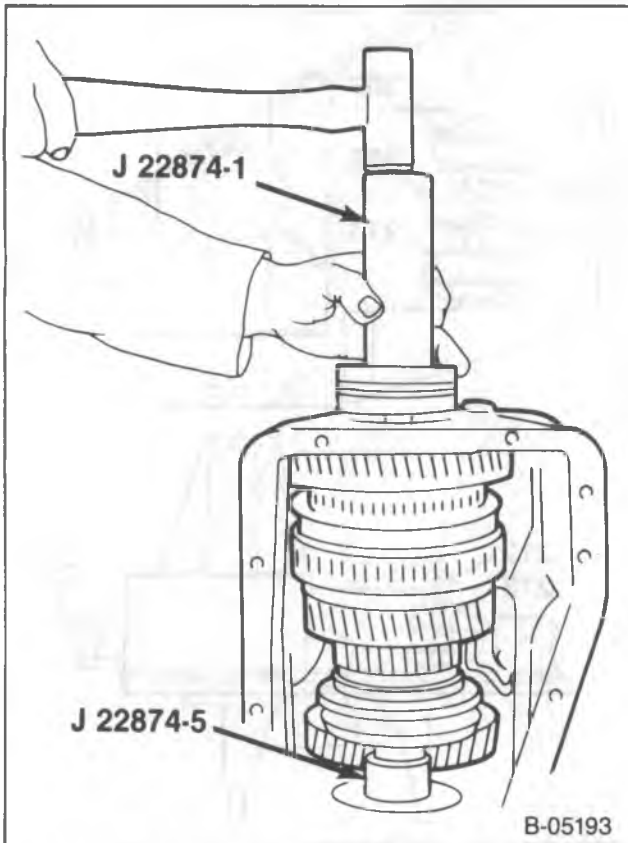

Figure 35—Installing the Mainshaft Rear Bearing
1. Countergear (227) into the case.
2. Reverse idler gear (230) and the shaft.
3. Mainshaft (250) into the case.
- Place J 22874-5 into the front bearing hole, engaged with the mainshaft, (figure 35).
4. Mainshaft rear bearing (224).
- Install a new snap ring (218) onto the bearing.
- Drive the bearing until the snap ring is flush with the case using J 22874-1 (figure 35).